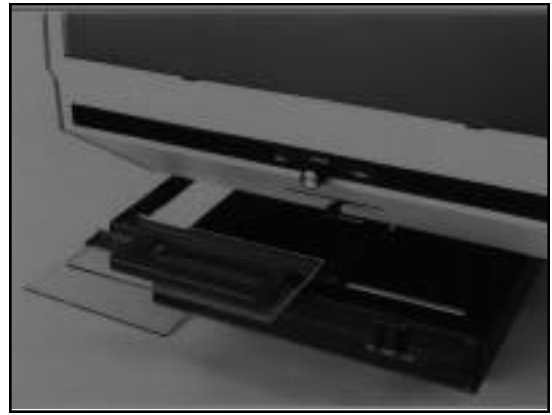

Figure 3
5. Gently push the lower glass backward until it stops; it should move back about 1/4". Lift the glass up and toward you (Figure 3).